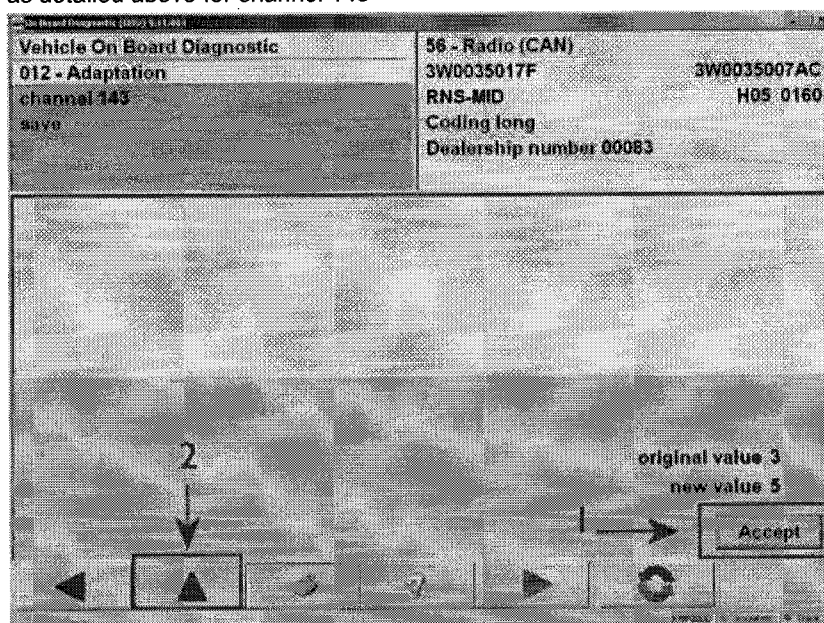

Figure 12
10. Select *Accept* (1) then up arrow (2). Then select *End* and *End* to exit and return to the VAS front screen (see Figure 12)